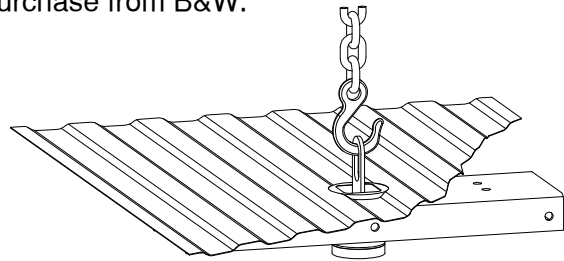

Figure A1: Lifting Device
- 6. Prepare a lifting device (optional).** The purpose of the device is to safely hold the hitch in position during part of the installation, see Figure A1 for an example. A simple mechanical lifting device is available for purchase from B&W.